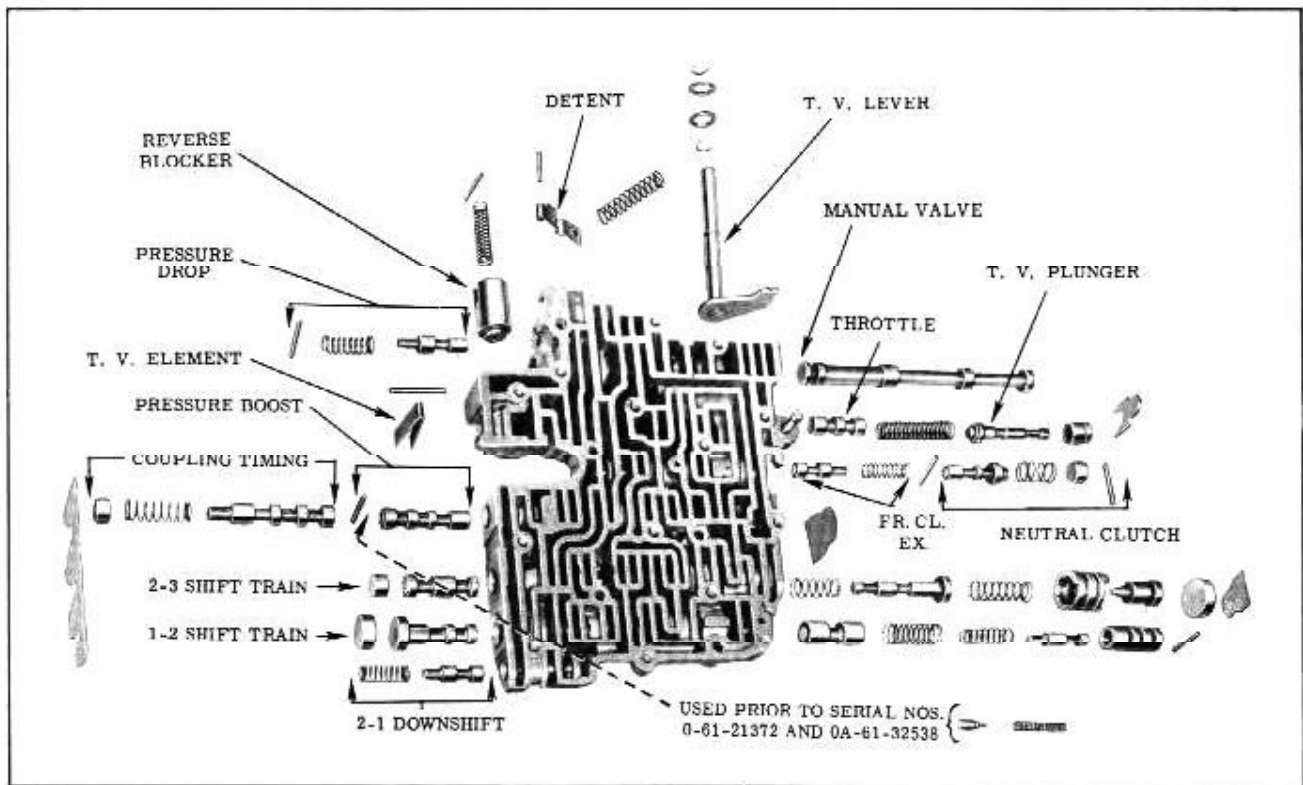

Fig. 3-96 Valve Assemblies
15. Remove the pressure boost valve from the same bore. (Fig. 3-96)
ASSEMBLY—CONTROL VALVE ASSEMBLY (Fig. 3-96)
26. In the bore adjacent to the "U" shaped "cut-out" install the pressure boost valve, using brass rod to guide valve into bore, (long land first). (Fig. 3-96)